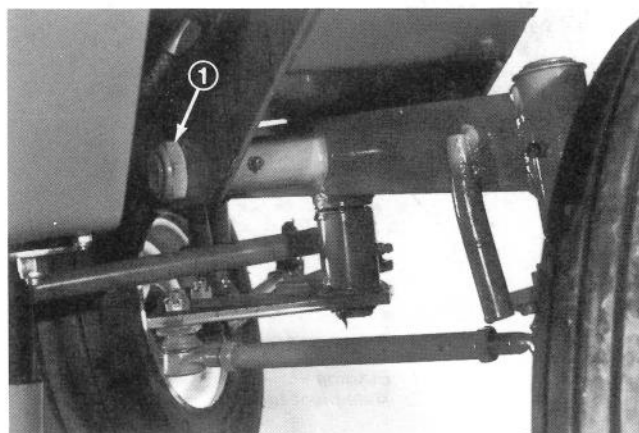

Figure 41
2. Remove large locknut from end of rear axle pin (Fig. 41).
10. Install large locknut on end of axle pin (Fig. 41). Tighten locknut until all forward and backward movement of the axle is eliminated. However, the axle must still pivot freely.
13. Install large locknut on end of axle pin (Fig. 41). Tighten locknut until all forward and backward movement of the axle is eliminated. However, the axle must still pivot freely.